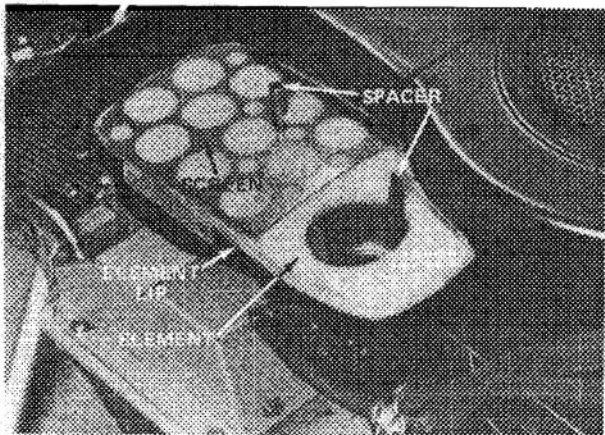

Figure 23
3. Remove cover and screen from foam element. Remove spacers from element and element from body. Examine element for dirt or discoloration (Fig. 23) and clean if necessary.